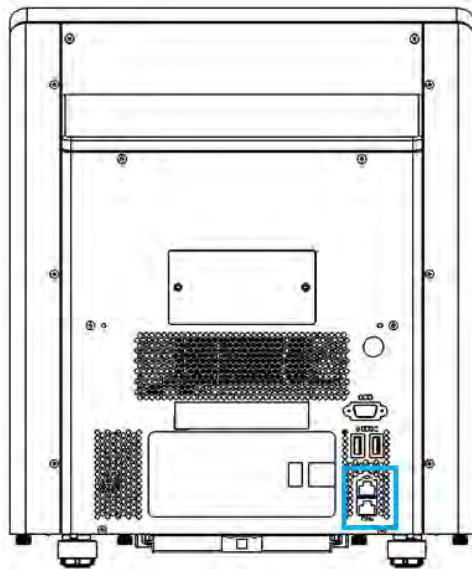

Figure 5.1: Location of Ethernet ports on the back of the Alto instrument.
1. To connect your instrument to the internet, you will need to use an ethernet cable. Attach an ethernet cable in the port highlighted in Figure 5.1. Connect one end of the ethernet cable to the Alto instrument and the other end to your router or wall connection to complete the setup.